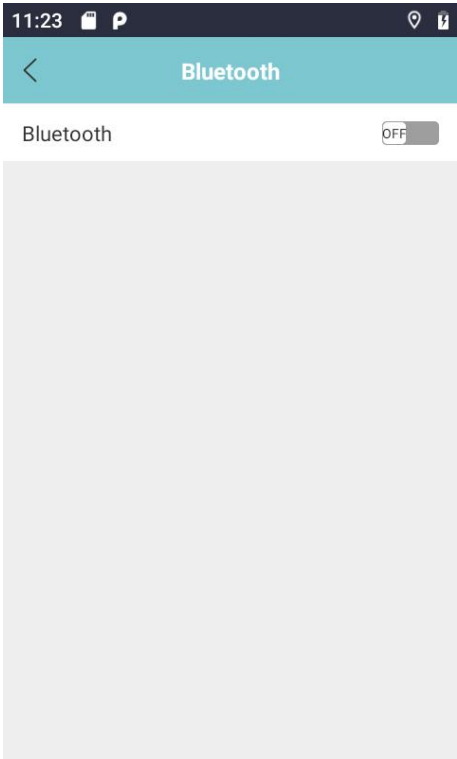

Figure 6.101
- 3) Bluetooth: Tap “Bluetooth” to enter the Bluetooth settings interface, as shown in Figure 6.101. Enable or disable Bluetooth using the toggle switch. Scan and connect to available Bluetooth devices. Bluetooth connection functions similarly to Android smartphones.